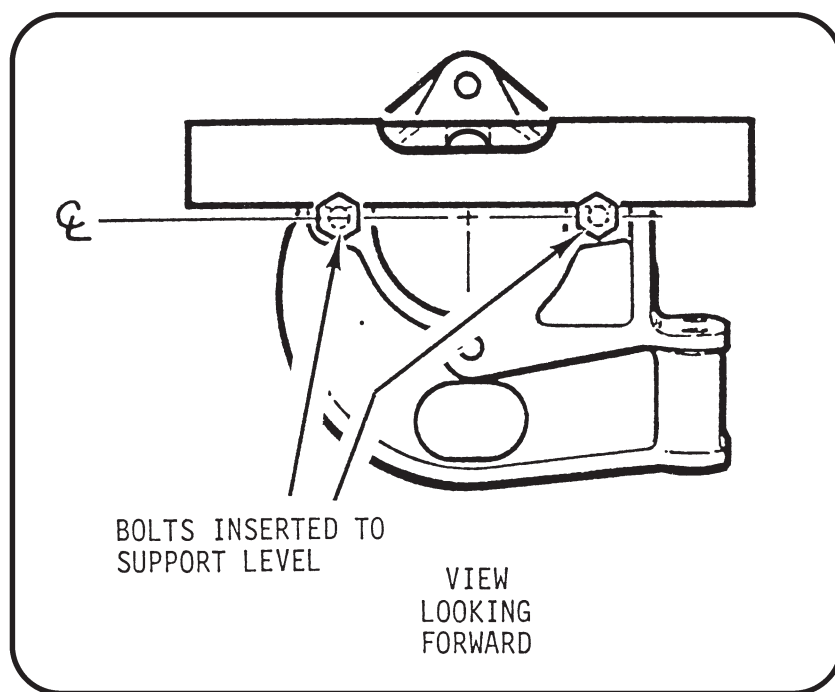

FIGURE 4-2A TAILCONE LATERAL LEVELING
3. Refer to Figure 4-2A. Insert two bolts into tailcone aft bulkhead left & right mounting holes and place level across bolts. Level tailcone laterally by rotating it on upper frame.